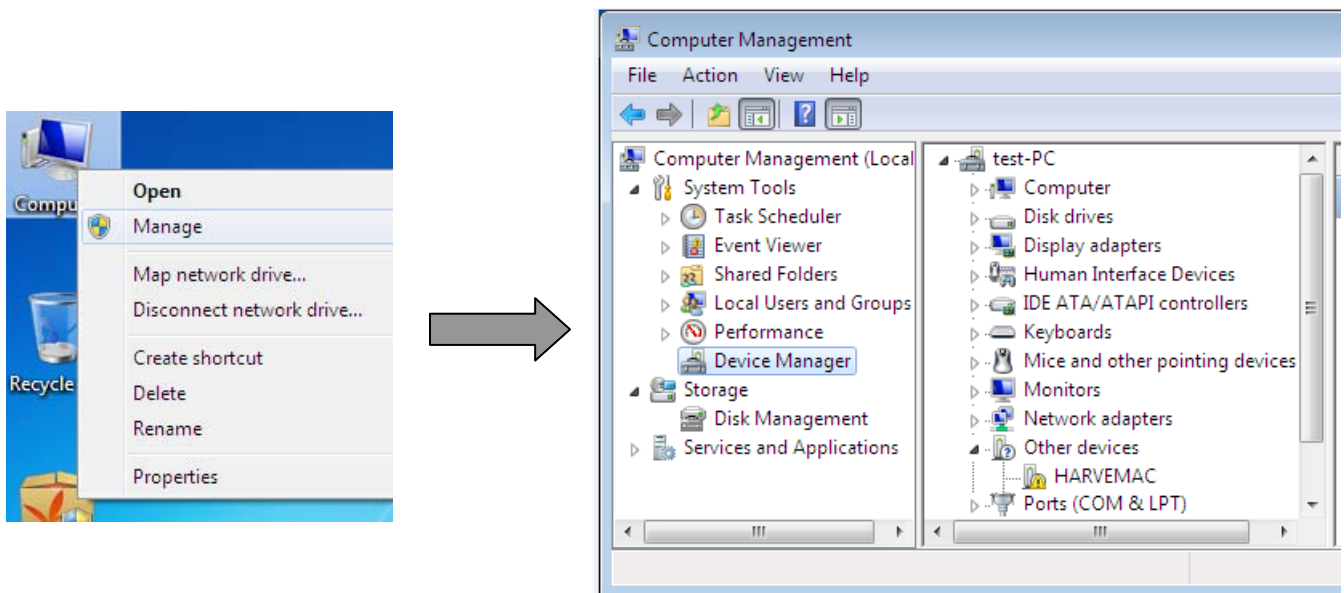
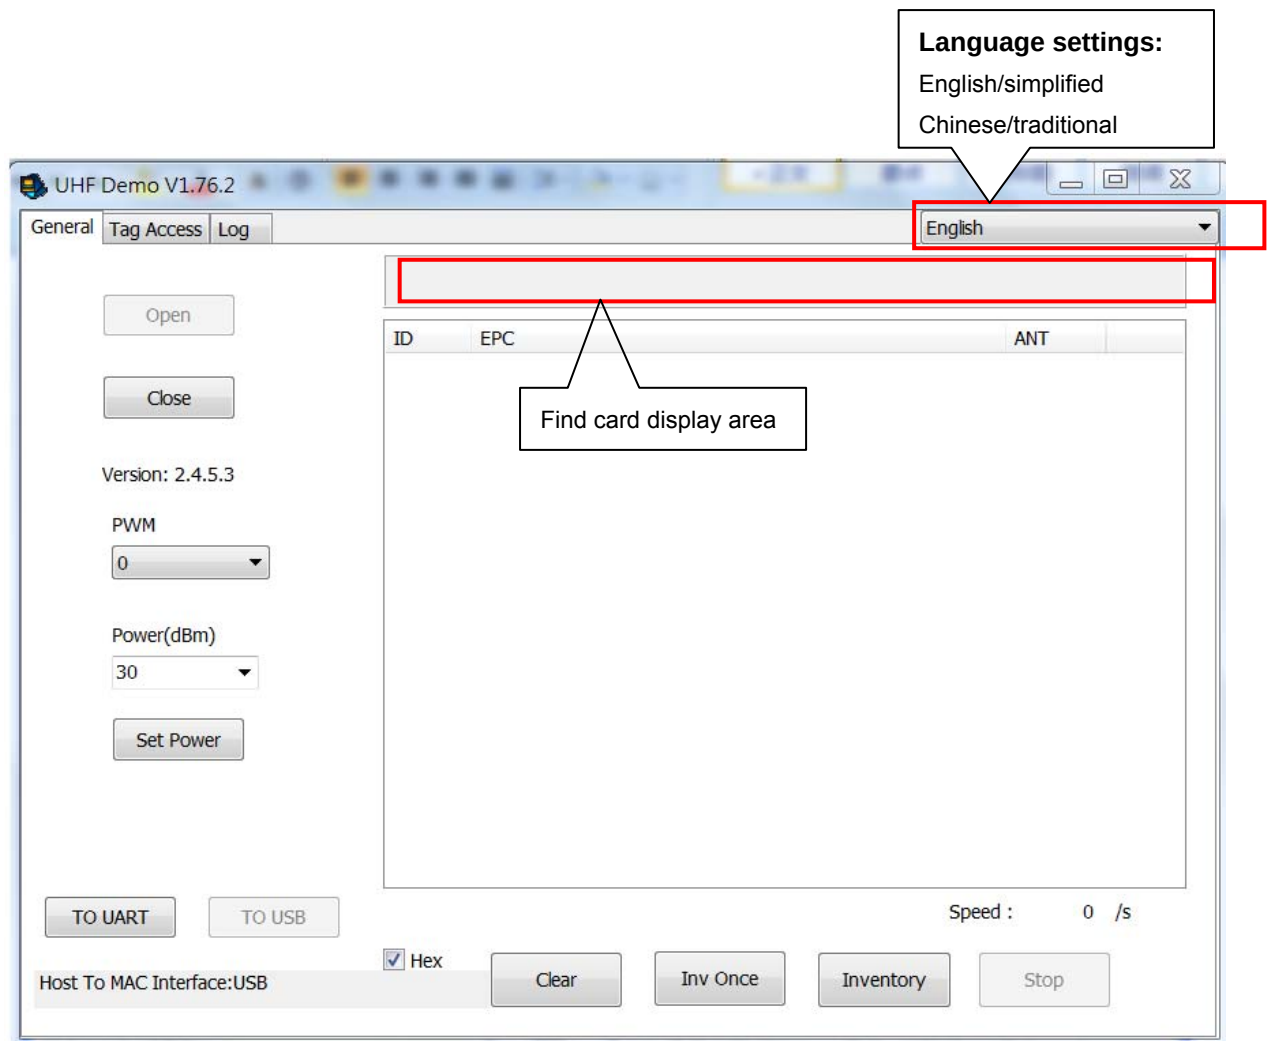

Figure 2.1
Figure 2.6
1. Right click on the “my computer” choose “**management**” options → click “Device Manager” and click on the “other devices” drop-down box; As shown in figure2.1:
5. After setting the “COM”, click in the interface is shown in figure 2.1“ UHFDemoV1.76.2.exe”software; Into the following basic operation is shown in figure 2.6 interface: